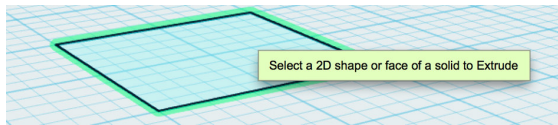
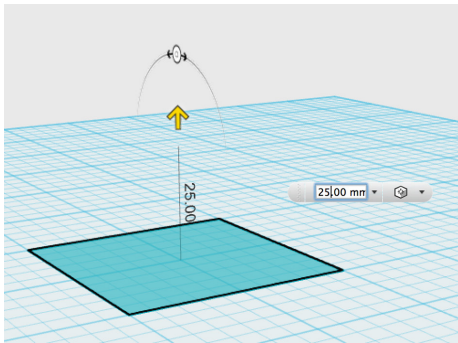

Figure 4-19 Select your rectangle
Figure 4-20 Click and hold
3. Follow the prompts to select your 2D rectangle (Figure 4-19), and then use the arrow by clicking and holding while moving your cursor (Figure 4-20).